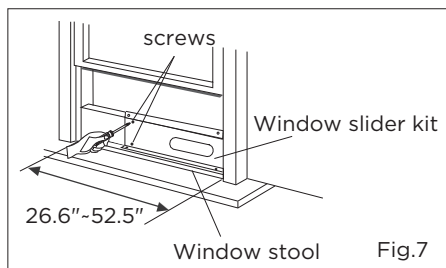

Fig.7
2. Open the window sash and place the window slider kit on the window stool (Fig.7). Attach the window slider kit to the window stool. Adjust the length of the window slider kit according to the width of window. Screw down the two screws on the window slider kit. See Fig.7.